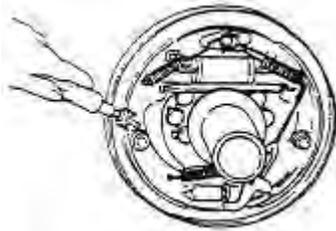

figure 2-18
(3) Disassemble the fixed spring on leading brake shoe. See figure 2-18
(4) Disassemble the leading brake shoe and secondary brake shoe. Then disassemble the